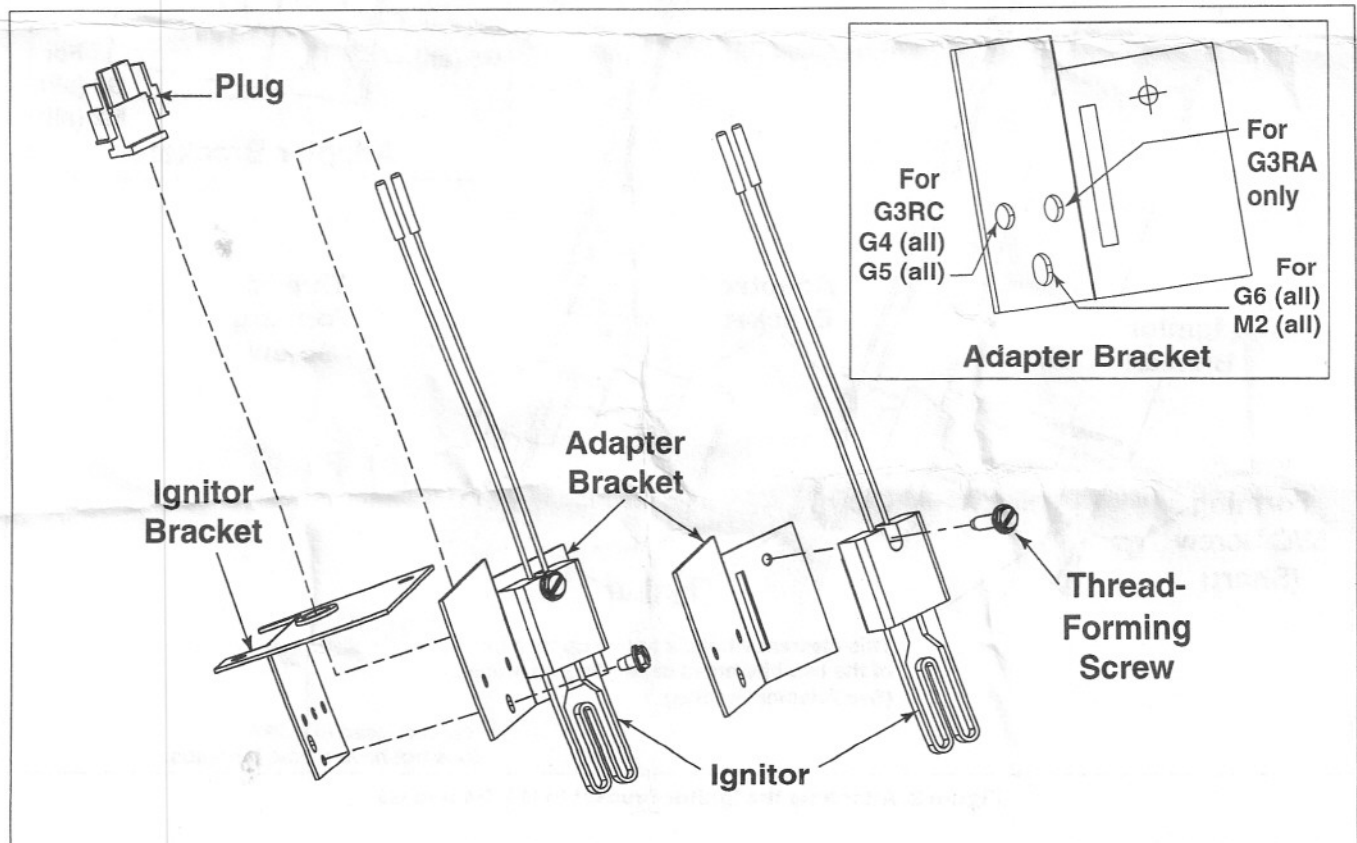
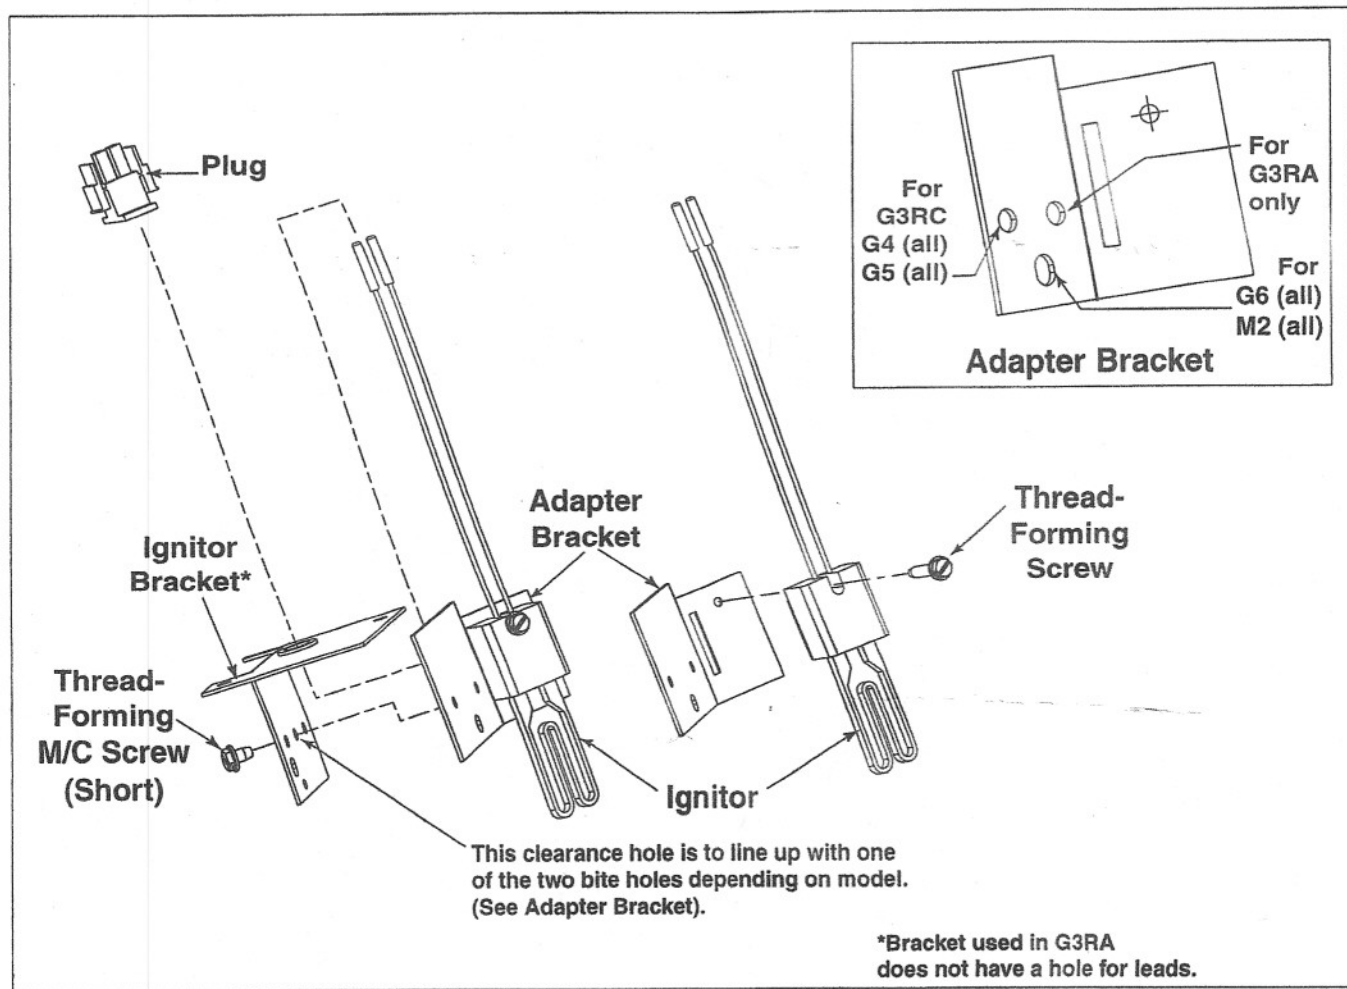

Figure 1. Attaching the Ignitor Bracket to all G6 and M2
Figure 2. Attaching the ignitor Bracket to G3, G4 and G5
4. If the existing ignitor element is spiral in shape, then the adapter bracket supplied with the kit will be required to install the new ignitor. The adapter bracket has one elongated hole (used for all G6 and M2 models) and two bite holes, one of which is used to attach to ignitor bracket depending on the model series. See figures 1 and 2. Remove the existing ignitor from the ignitor bracket by removing the fasteners. Keep the fasteners. Keep the fasteners.
6. Secure the new ignitor to the adapter bracket, using the thread-forming screw supplied in the kit, as shown in Figure 1. Ensure that the leads of the ignitor are through the hole in the ignitor bracket before securing the ignitor. Attach the adapter bracket to the ignitor bracket using one of the fasteners removed earlier, as shown in Figure 1 for G6 and M2 series. For all other models, secure ignitor bracket to adapter bracket using the short thread-forming screw (supplied with kit) threaded into the appropriate bite hole. See figure 2.